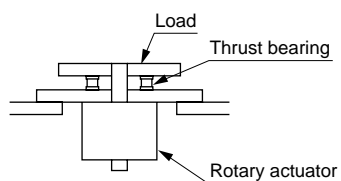

Fig.1
- Do not apply load (thrust load) axially to the vane shaft or a malfunction may occur. If this is unavoidable, use a structure with a thrust bearing as shown in Fig. 1. If such a load is unavoidable, use a structure with thrust bearing as shown in Fig. 1.